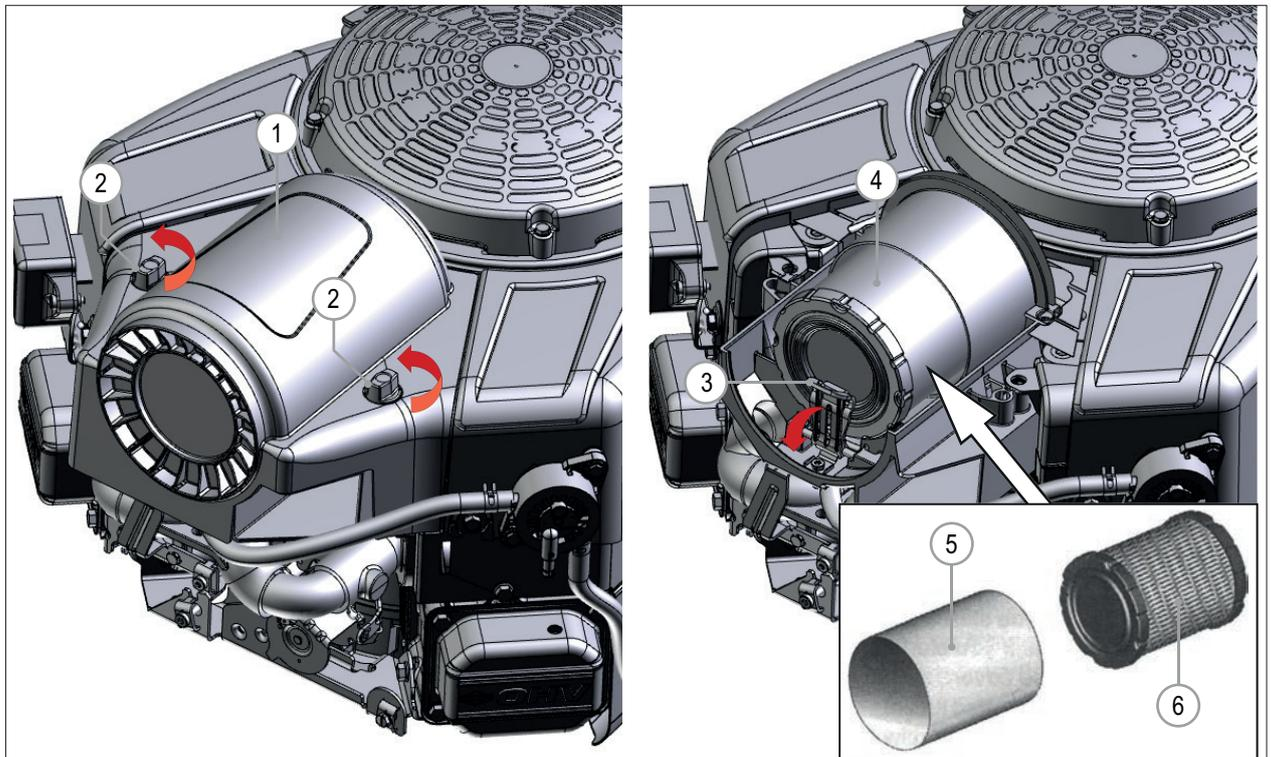

FIG. 42
- 4) Remove the air filter cover (FIG. 42 - Ref. 1) by loosening the two fasteners (FIG. 42 - Ref. 2).
- 5) Unhook the retaining clip (FIG. 42 - Ref. 3).
- 6) Remove the air filter (FIG. 42 - Ref. 4).
- 7) Remove the filter element (FIG. 42 - Ref. 6) from the pre-filter (FIG. 42 - Ref. 5).
- 8) Check the filter element (FIG. 42 - Ref. 6), if cleaning is needed do it with low pressure air jets or replace with new genuine spare part.
- 9) Check the pre-filter (FIG. 42 - Ref. 5), if cleaning is needed wash in liquid detergent and water. Then allow it to thoroughly air dry.
- 11) Reinstall the air filter and secure it with the retaining clip (FIG. 42 - Ref. 3).